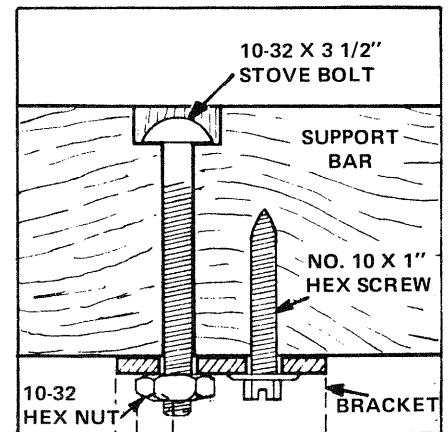

FIGURE 5-12B Cross-section view of mounted Bracket (on BOTTOM of the Bar).
- B. Secure the Bracket to the Bar with one #10 x 1" Hex Washer Hd. Screw at the inside slot, then pass one of the 10-32 x 3-1/2" Stove Bolts (you must supply this item) through the hole in the TOP of the Bar and use a 10-32 Hex Nut to secure the Bracket to the Bar as shown in FIGURE 5-12B. Proceed to STEP 5-21 on the next page. See the NOTE below.